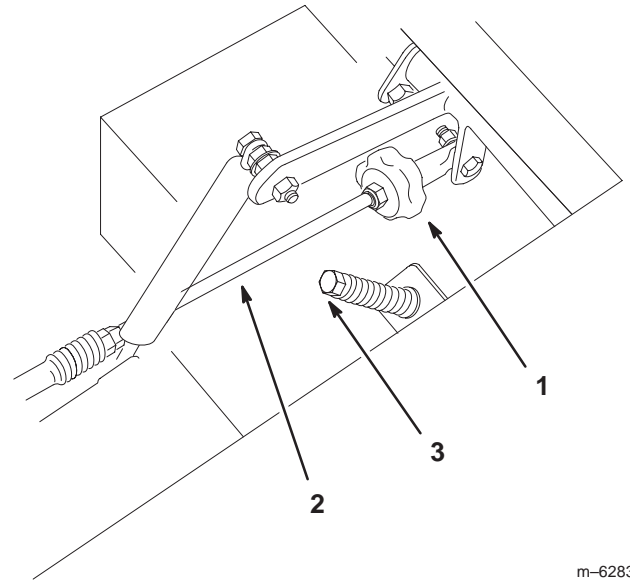

Figure 50
2. Adjust pump rod length by rotating the knob, in the appropriate direction, until the wheel is still or slightly creeping in reverse (Fig. 50).